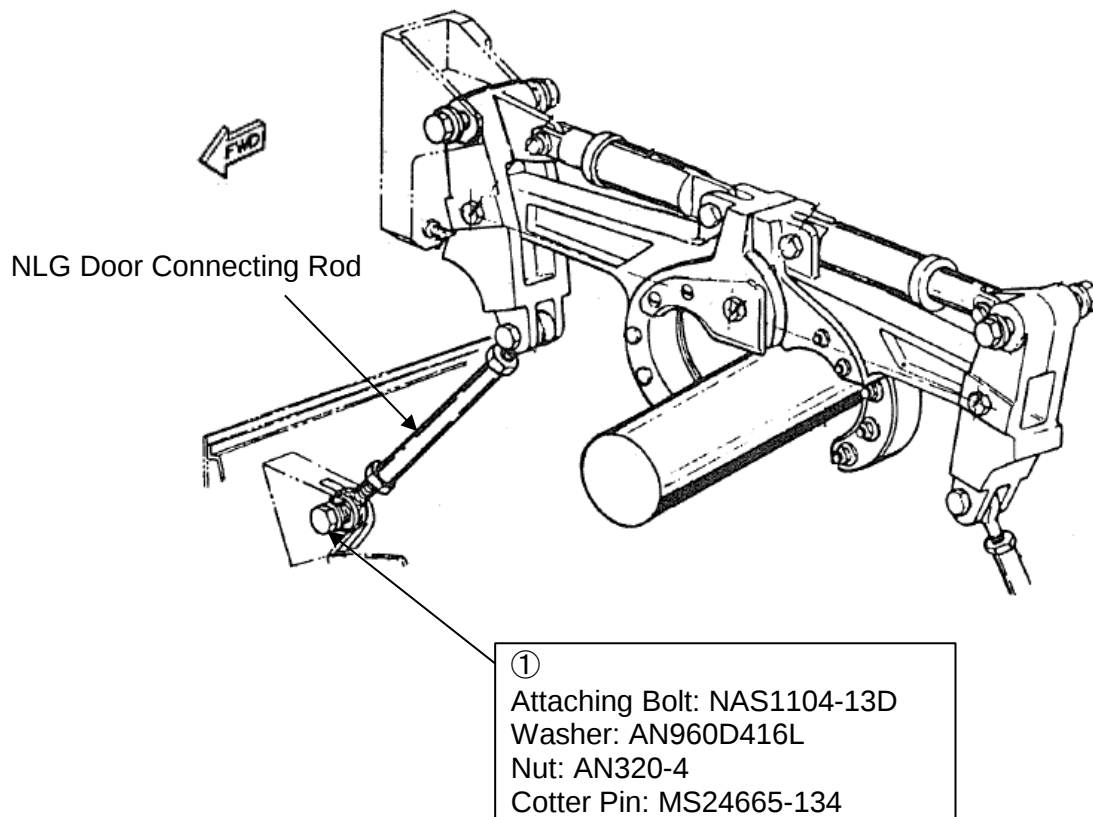

Figure 2: NLG Door Connecting Rod Disconnect
- (6) Remove NLG Wheel Assemblies.
- (7) Remove NLG Doors connecting bolts. (Figure 2 ①)